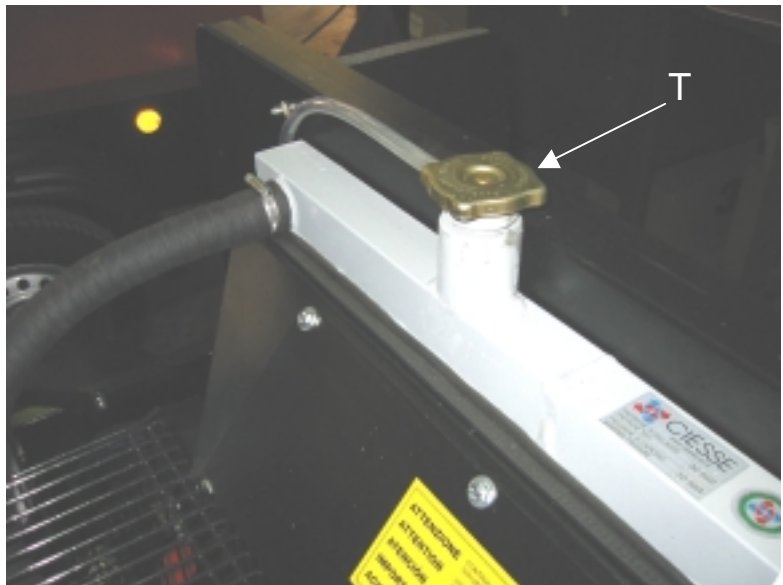

FIG. 9
-7.1.5 Check the level of the cooler liquid in the radiator (Fig.9).